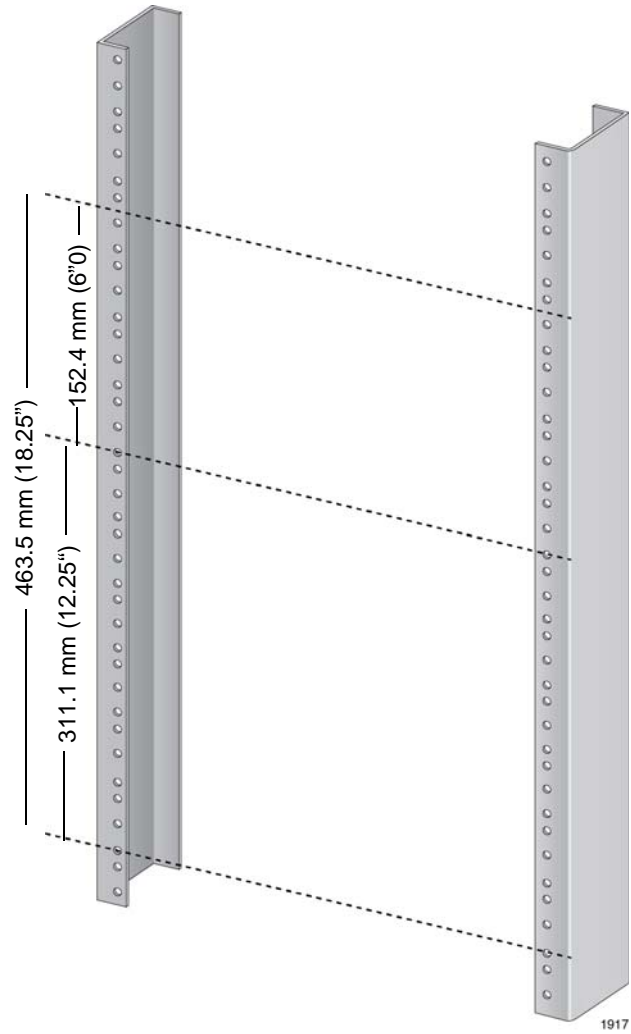

Figure 38. Reserving Vertical Rack Space
1. Reserve 311.1 mm (12.25") of vertical rack space for the installation of the AT-SBx3112 Chassis, as shown in Figure 38 on page 102.